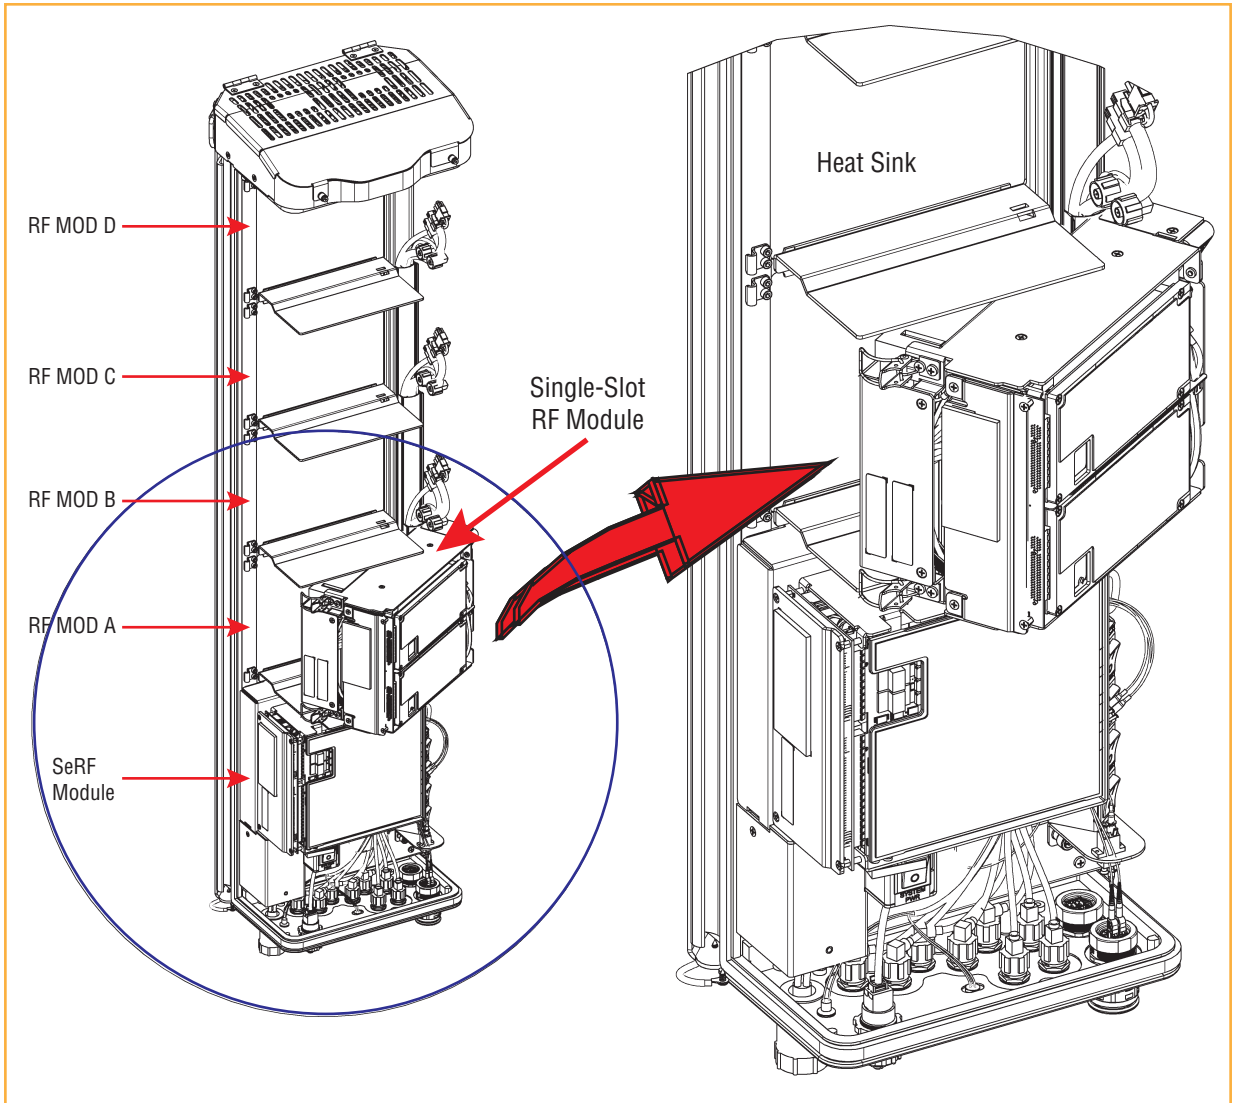

Figure 11. Installing a Single-Slot RF Module
- Single-Slot RF Module: Figure 11 on page 25